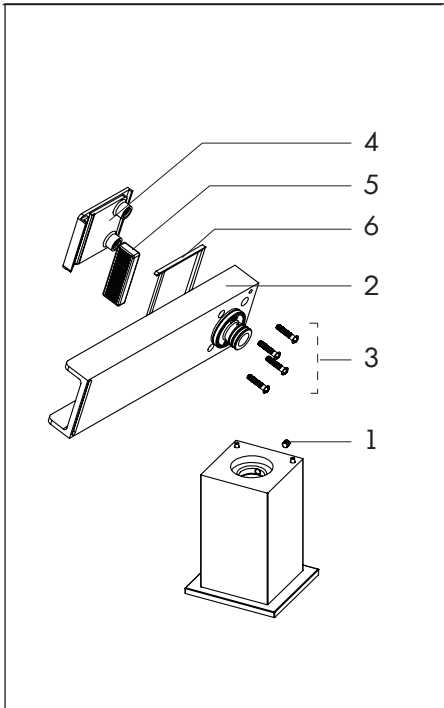

Fig.7
Remove the 4 phillips screws underneath the top part of the spout (3) and simply pull out the lid (4) to remove the aerator (5) and the seal (6) Fig.7.
Soak the aerator in a vinegar and water solution to remove lime build-up. Once cleaned, reassemble by reversing steps. Fig.7.
- Une fois nettoyé, inverser les étapes pour réassembler le bec. Fig.7.